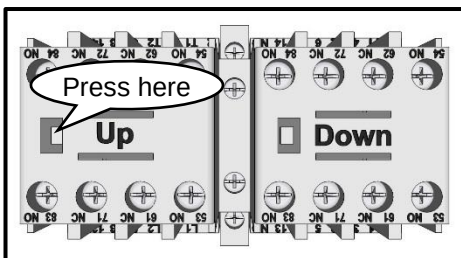

Figure 10
- 2** Through the motor access panel / door open the controller and use the "Up" contactor to move the dumbwaiter car up until the bottom of the car is 3-6 feet above the floor. (see Figures 10, 11 & 13) (see Page 14 for Contactor Operation)
- 5** Through the motor access panel / door open the controller and use the "Down" contactor to move the dumbwaiter car down until the top of the car is lined up with the bottom of the top hoistway door. (see Figures 10, 11 & 13)